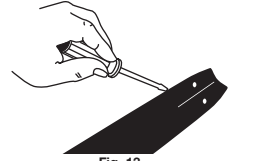

Fig. 13
2. Using a screwdriver, putty knife, wire brush or other similar instrument, clear residue from the rails on the guide bar (Fig. 13).